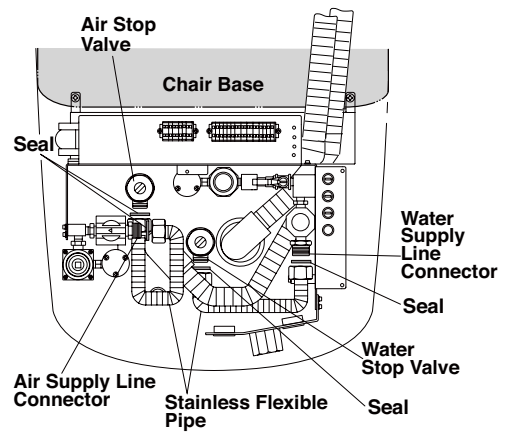

Fig.6-12 Water and Air Supply Line Connection
(4) Water and Air Supply Line Connection
- B. Connect the water supply line to the water stop valve with the stainless flexible pipe and the seals. (Fig.6-12)
- C. Connect the air supply line to the air stop valve with the stainless flexible pipe and the seals. (Fig.6-12)